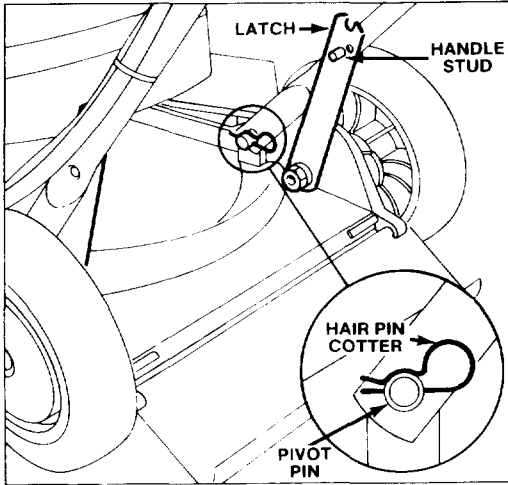

Figure 1
1. **LOWER HANDLES** (Fig. 1) — Push ends of handle together and install on pivot pins. Move handle and latches backward until handle studs snap into center hole. Push hair pin cotters through holes in pivot pins.